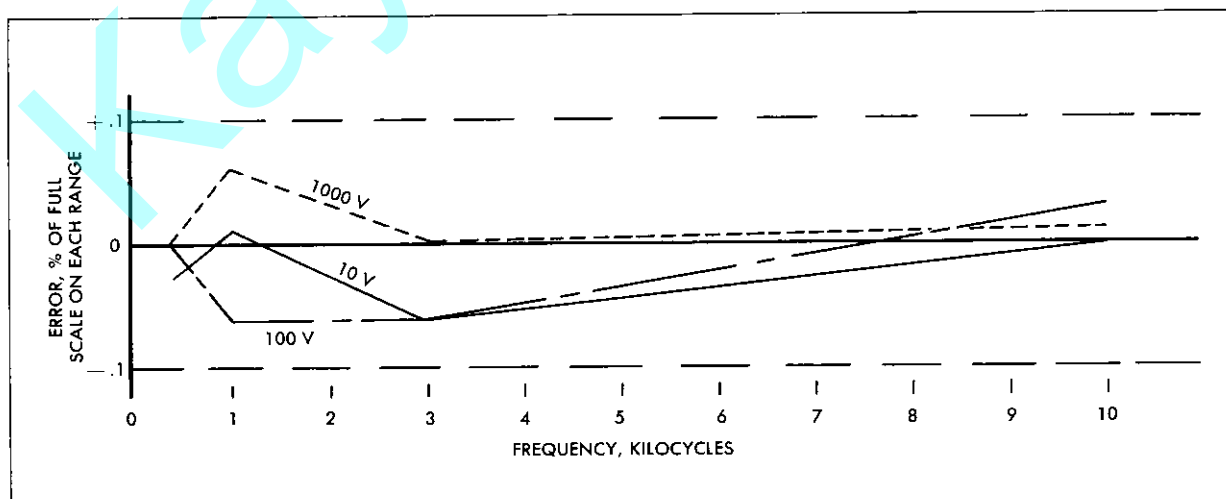

FIG. 4-3 PLOT OF ERROR VS FREQUENCY FOR A TYPICAL AC TO DC CONVERTER AFTER CALIBRATION
12. The time required for calibration will be much shorter if you plot, on graph paper, the readings obtained after each step below. Then, the effect of each control will be readily apparent. After examining the graph, you can better manipulate the controls to bring the converter into tolerance by, for example, causing an intentional error in one direction at a certain frequency to cause the curve of frequency vs error to come within tolerance at other frequencies. Another reason why the plotted readings are helpful is that the frequency compensation controls have a much greater effect at higher frequencies than at lower frequencies. Figure 4-3 shows a plot of error vs frequency for a typical converter after calibration.